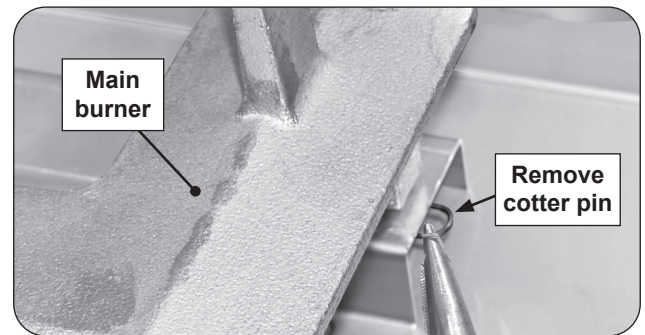

Fig. 38-2 Remove cotter pin
2. Locate and remove the cotter pin from the left or right rear burner anchoring peg by pulling it straight out of the cotter pin hole using fingers or needle-nose pliers. See Fig. 38-2.